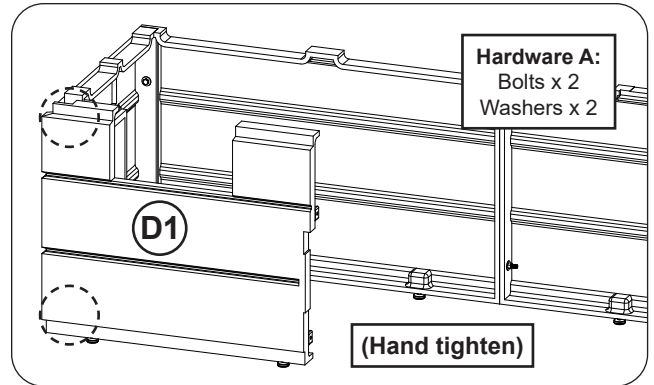

Fig. 9-1 Assemble front wall (left piece)
1. Position the left front wall piece (D1) and repeat the hardware installation process (hardware kit A). Hand tighten only. See Fig. 9-1.